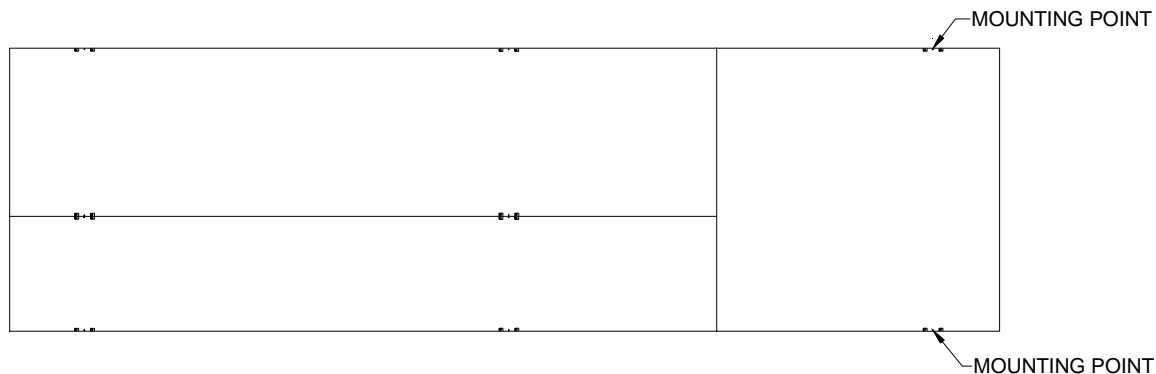

Figure 7 Side Sponsor Panel Mounting Points
4. Clamp the sponsor panel to the scoreboard post at the two mounting points using the same type of hardware used on the scoreboard sections. Figure 7 shows the mounting points for the optional side sponsor panel.